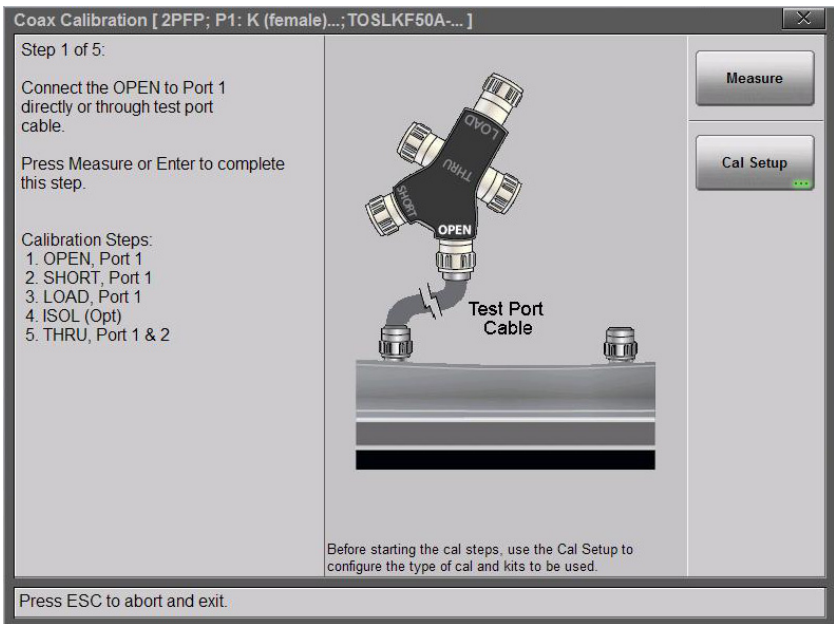

Figure 4-10. Calibration Dialog Box for Coax
4. Press **Measure** and follow the on screen instructions (see Figure 4-10 on page 4-15).
Figure 4-10 shows the Calibration dialog box showing calibration setup and calibration steps. On-screen instructions are given for each step.